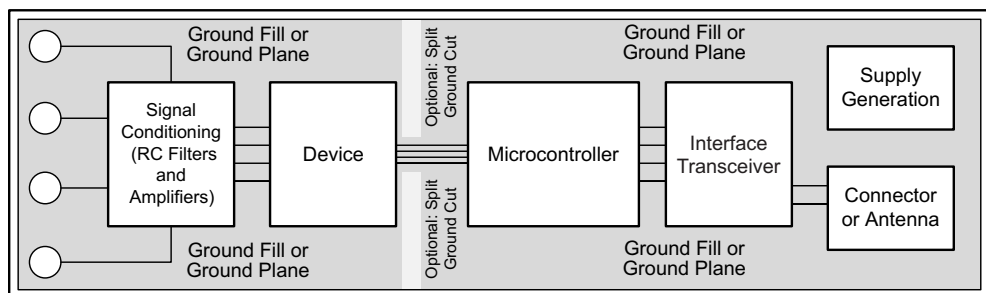

Figure 33. System Component Placement
Employ best design practices when laying out a printed-circuit board (PCB) for both analog and digital components. For optimal performance, separate the analog components [such as ADCs, amplifiers, references, digital-to-analog converters (DACs), and analog MUXs] from digital components [such as microcontrollers, complex programmable logic devices (CPLDs), field-programmable gate arrays (FPGAs), radio frequency (RF) transceivers, universal serial bus (USB) transceivers, and switching regulators]. An example of good component placement is shown in Figure 33. Although Figure 33 provides a good example of component placement, the best placement for each application is unique to the geometries, components, and PCB fabrication capabilities employed. That is, there is no single layout that is perfect for every design and careful consideration must always be used when designing with any analog component.